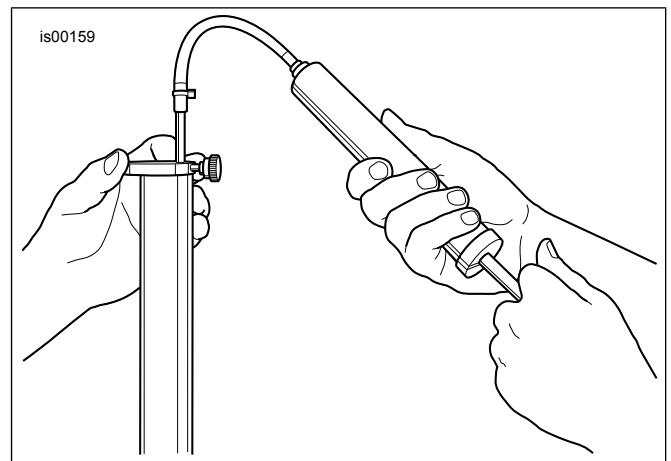

Figure 5. Remove Excess Fork Oil (HD-59000B)
- a. See Figure 5. Obtain the Front Fork Oil Level Gauge (HD-59000B).